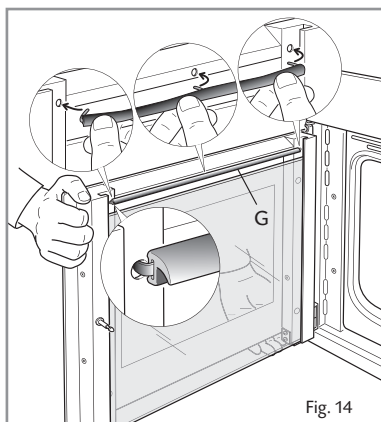

Fig. 14
- Reassemble the seal "**G**" in the correct way (fig. 14) by hooking the no. 3 fixing hooks in the proper holes.